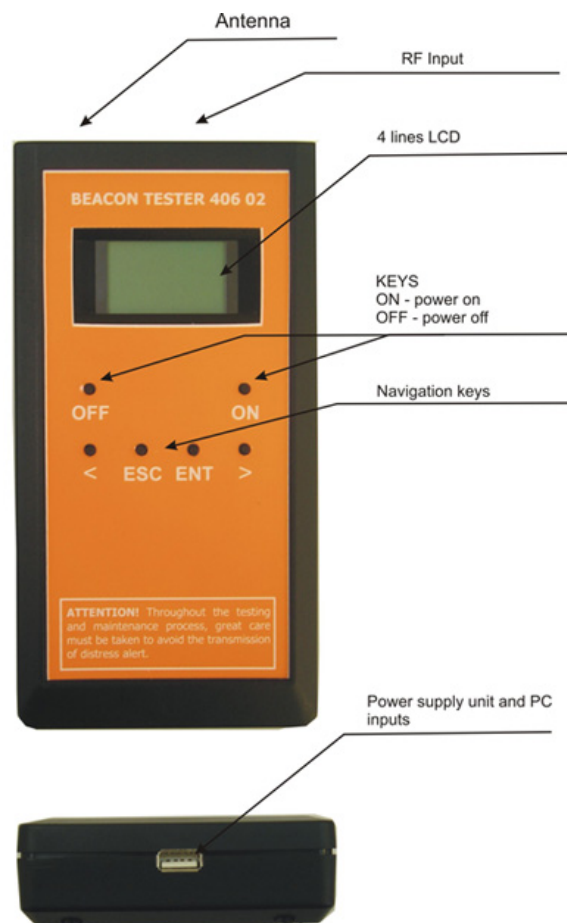

Figure 5-1
- 4.1 The measurement of beacon's parameters can be carried out both by means of internal attenuator with 40dB damping and by means of internal antenna. RF cable is connected to corresponding input located on the upper front panel of the tester. (see figure 5-1).
- 5.1.1 There are the four-line LCD indicator on the front panel of the tester and the keypad. (Figure 5-1).
- 5.1.2 The upper left key ON is intended to turn on the tester and upper right key OFF – to turn off. (Figure 5-1).
- 5.1.3 The lower keys «<», **ESC**, **ENT**, «>» are intended to navigate the menu items and their execution (Figure 5-1).
5.1.4 The RF input is located on the upper panel of the tester. The PC and power supply outputs are located on the bottom panel. (Figure 5-1).